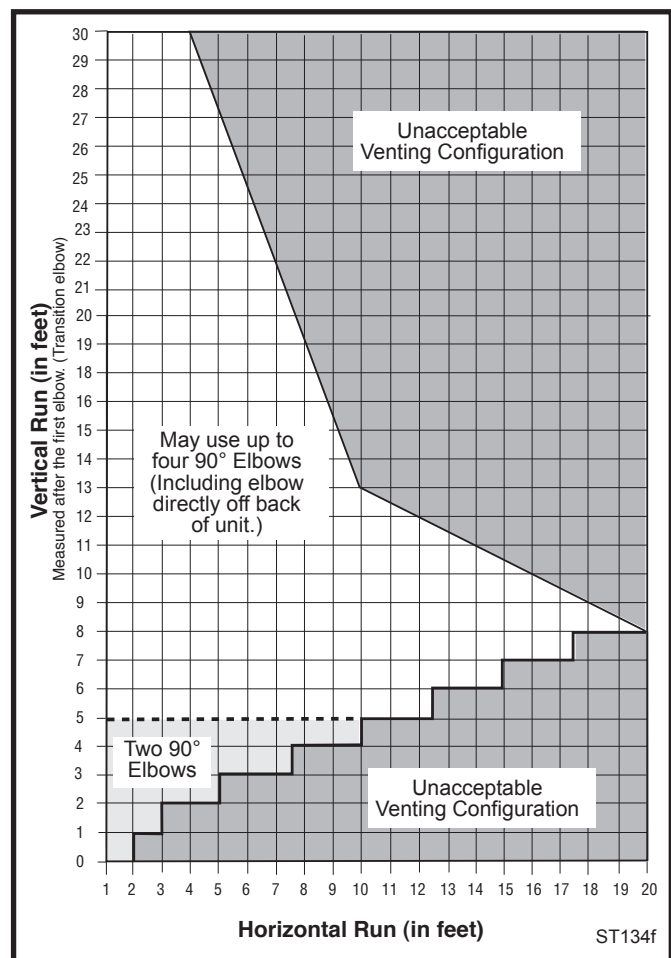
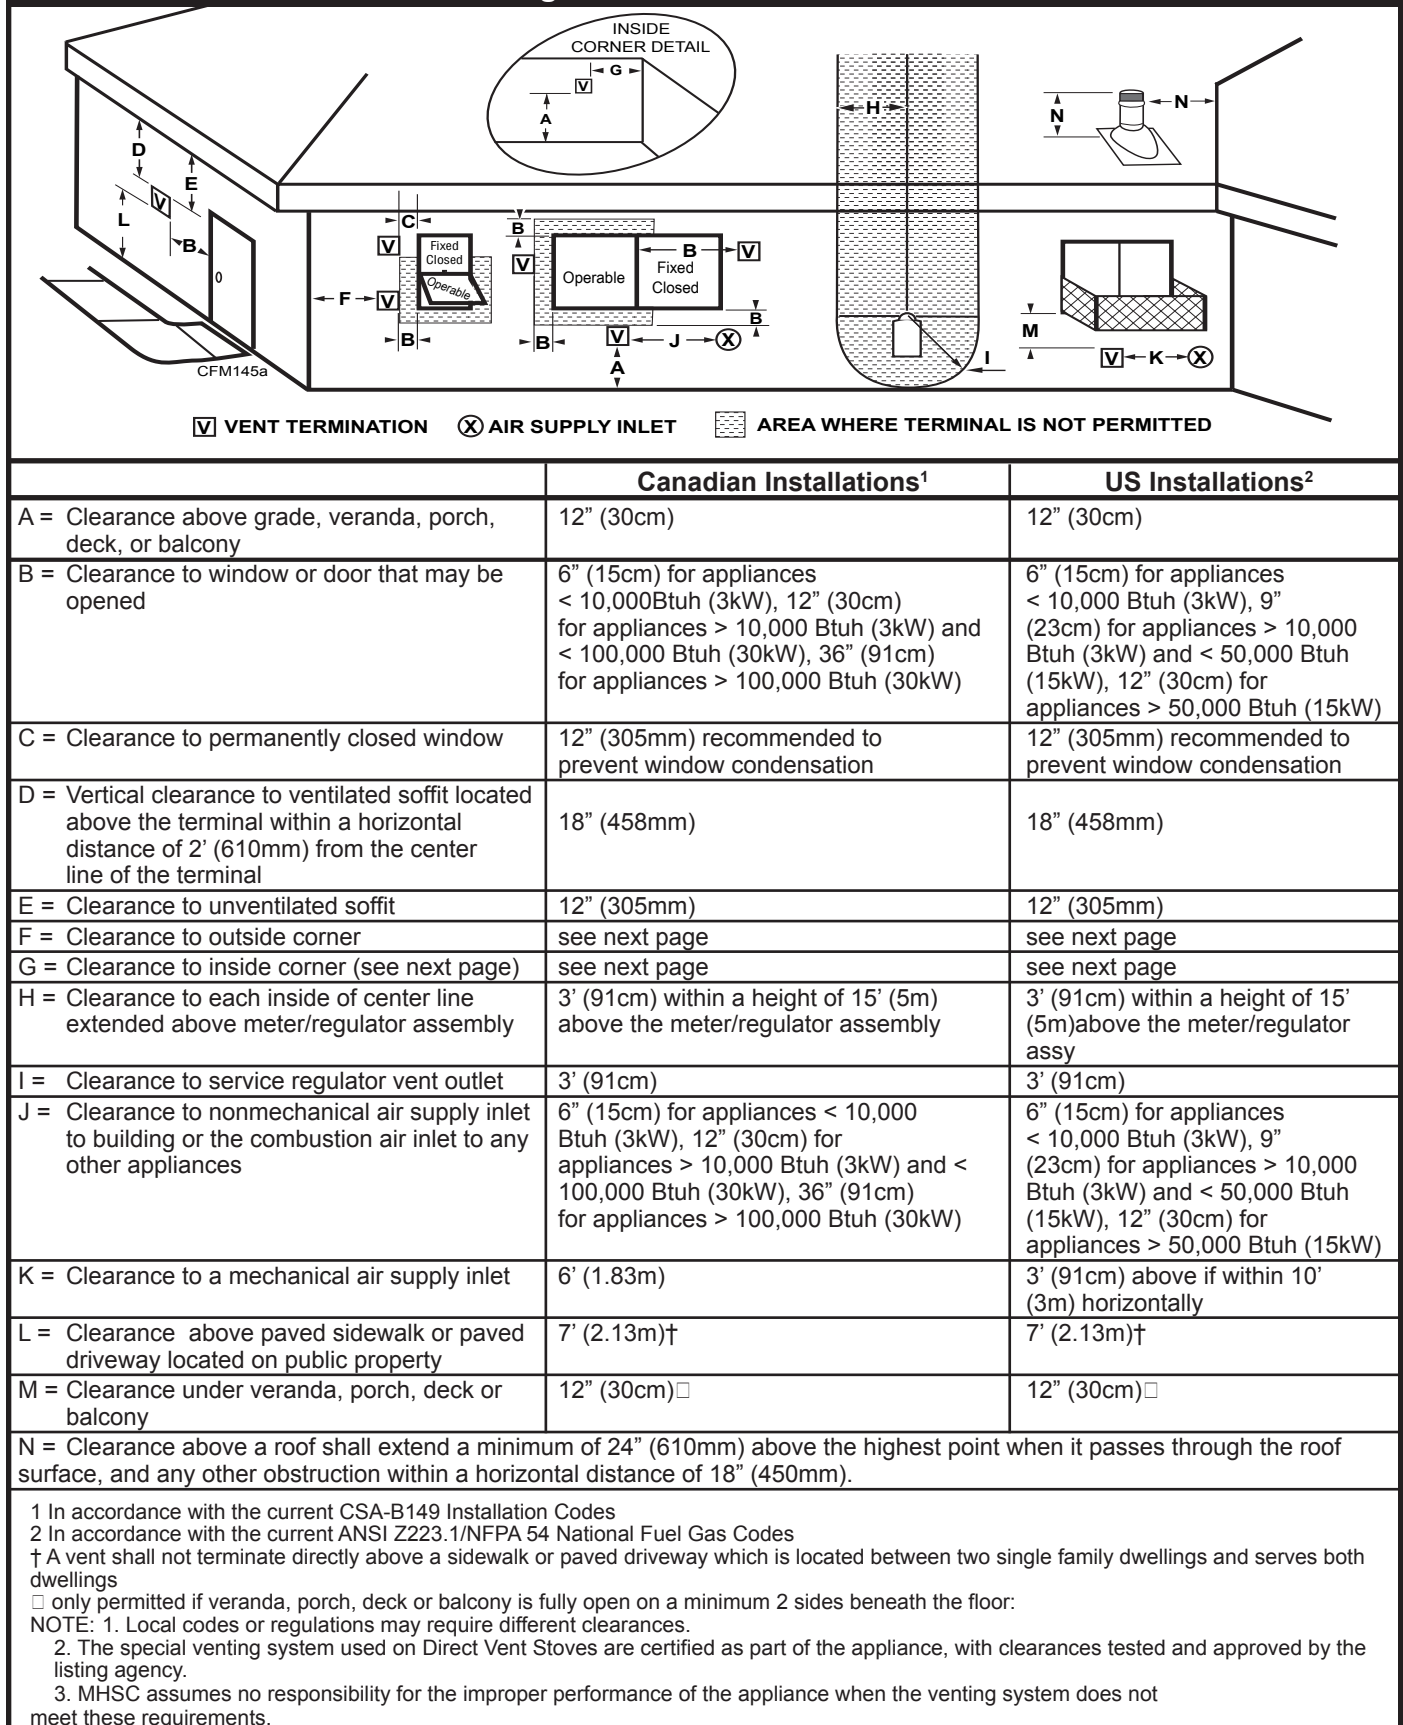

Fig. 7 Horizontal vent termination window.
Fig. 11 Vent termination clearances.
The vent must rise vertically a minimum of 24" (610mm) after the first elbow directly off the back of the unit, before the next elbow. The horizontal run may extend up to 20' (6m) and include a vertical rise of up to 40' (12m). (Fig. 7) Horizontal termination must also meet the criteria shown in Figures 11 and 12.
- Approved vent systems must terminate above and including the heavy line in Figure 7.
- Termination height must conform to roof clearance as specified in Figure 11.
When planning the installation, consider the location of the vent terminal and clearances. Some of the most common clearances to keep in mind are shown in Figure 11.
Important: All vent clearances must be maintained. Check your vent termination clearances against Figures 11 and 12.
It is imperative the vent termination be located observing the minimum clearances as shown in Figure 11.